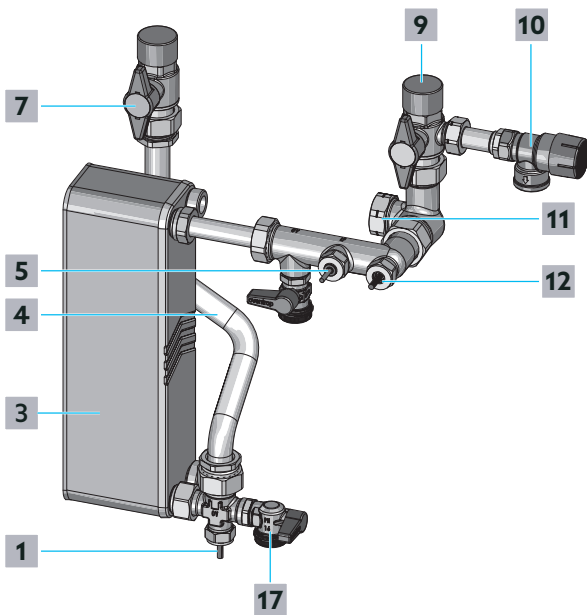

Fig. 21: Filling and venting of the potable water circuit
- 1** Slowly open the shutoff ball valve for potable water (hot) (position **7** in Fig. 21 on page 29 and in Fig. 1 on page 11).
- 2** Slowly open the shutoff ball valve for potable water (cold) (position **9** in Fig. 21 on page 29 and in Fig. 1 on page 11).
- ▶ If noises due to trapped air continue to occur in the potable water circuit, slightly open the fill and drain ball valve for potable water (hot) (position **17** in Fig. 21 on page 29 and in Fig. 1 on page 11) until only water escapes.